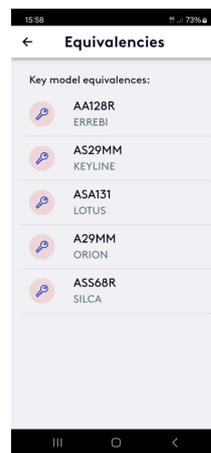

Fig. 28
1. The “Show Equivalents” option will display this key from other manufacturers. See Fig. 28